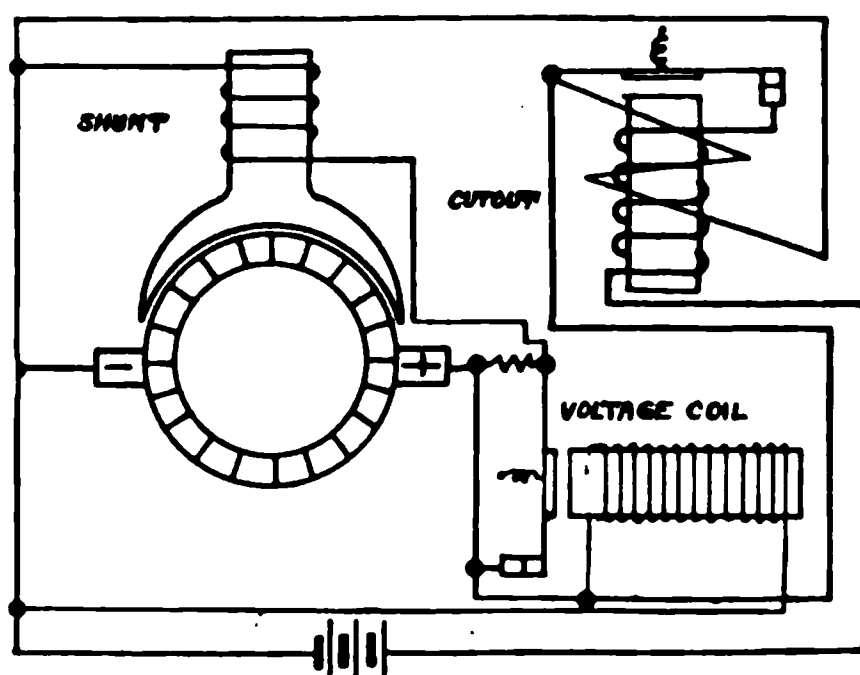
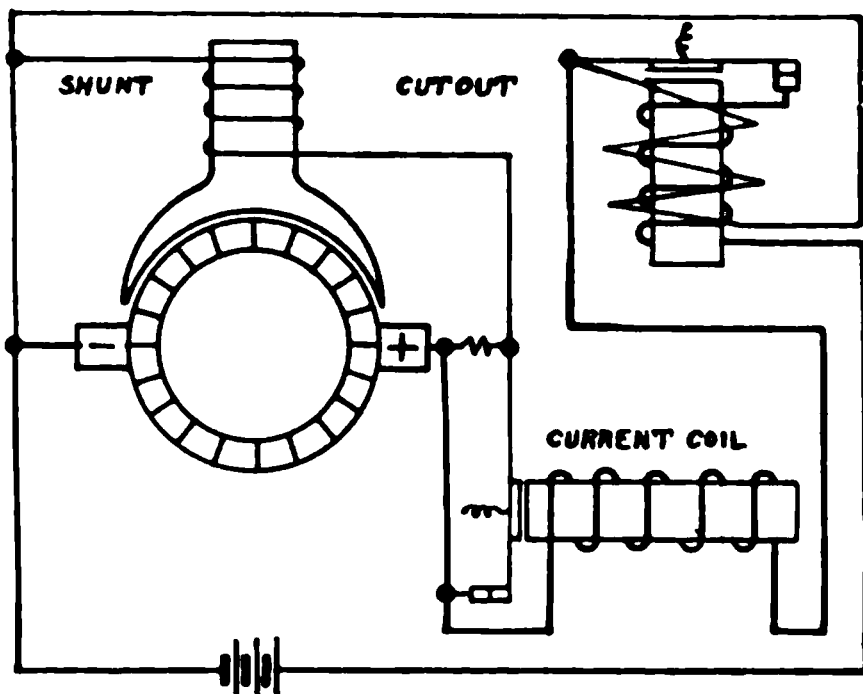
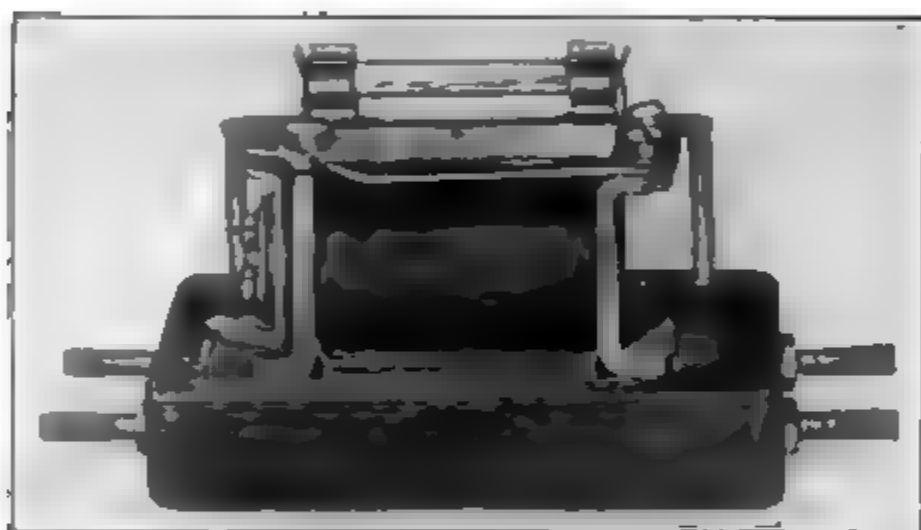

Fig. 148. Regulator Coil in Parallel with Battery
Fig. 149. Regulator Coil in Series with Battery
FIG. 153. Remy Reverse-Current Relay
A vibrating regulator whose regulator coil is connected in parallel with the battery is shown in Fig. 148. This method of regulation is known as the constant-potential type. In other words, this system is regulated by means of constant voltage. The regulator coil is wound with a large number of turns of fine wire and the amount of current flowing through this coil is determined by the voltage of the battery and the voltage of the generator. There will be more current flowing through this coil with a fully charged battery, as a battery in this condition offers more resistance.
The method of regulating the output by means of constant current is shown in Fig. 149. If Figs. 148 and 149 are compared, it will be noted that they are similar except that the regulator coil in Fig. 149 is connected in series with the charging circuit, while in Fig. 148 it is connected in parallel with the charging circuit. The
Referring again to Fig. 149, the current is collected at the positive brush of the generator. As the output increases, the magnetism of the regulator coil becomes of
**Ward-Leonard Type.** The Ward-Leonard, Fig. 149, is typical in that it clearly illustrates the principles upon which most of these devices are based, though their construction varies widely, as will be
ed by Fig. 153. The switch mechanism is shown at the left Fig. 149. In this device *A* is the coil, *B* the magnet core, *C* movable arm, and *DD'* the contacts. The dynamo generates sufficient voltage at a car speed of approximately 7 miles per hour to retract *C* and hold it, closing the battery circuit through *DD'*.